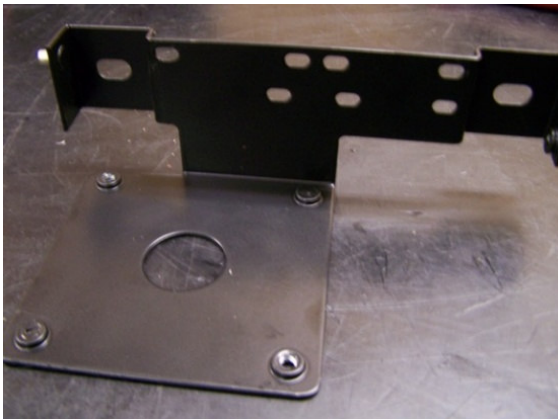

Figure 11
Step 10: Locate the new bracket PN 83194. (Figure 11)